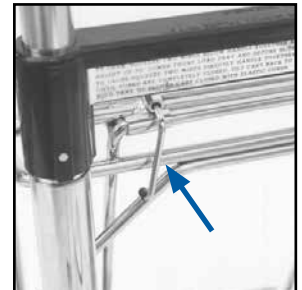

Figure 3 - RWA securing hook
5. A larger hook is located at the right rear of the RWA. Slip this hook over the 700 crossbar to secure the closed RWA against the 700. **(See Figure 3)**. The Model 710 can now be used as a conventional Model 700.